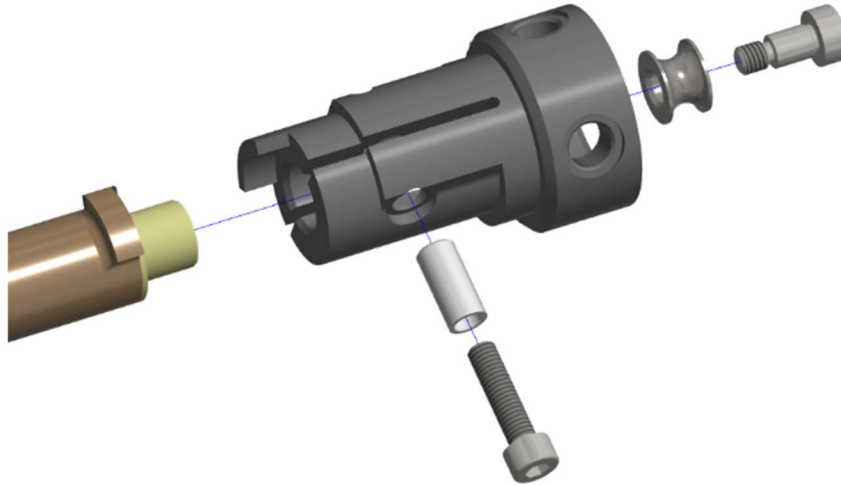

Figure 11-25. Lower Arm and Wrist Assembly (474-6700-1,2)
- 11.3.2 Assemble the Lower Arm and Wrist Assembly (474-6700-1,2) (Figure 11-25). Connect the Wrist Insert (474-6712-1,2-A) to the Distal Lower Arm Tube (474-6701-1,2). Install the M6 X 8 LG. SHSS SS into the center of the Distal Lower Arm Tube, through the Wrist Rotation Guide (474-6553) (). Screw the Distal Lower Arm Bolt Assembly (474-6704) into the Distal Lower Arm Tube (Figure 11-25).